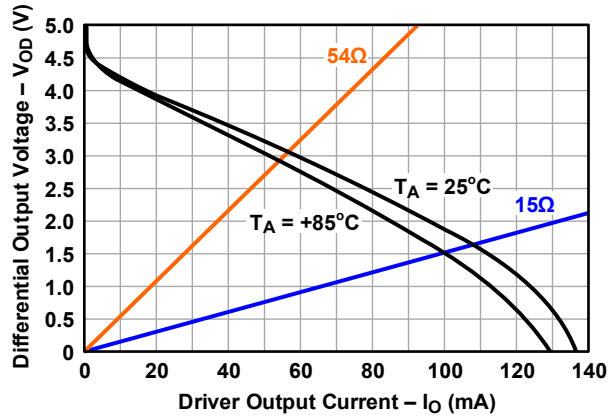

Figure 11. Driver Differential Output Voltage vs Output Current
- See Figure 11 on page 15 for more information and for performance over temperature.